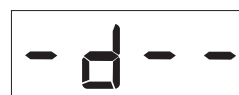

Figure 35. Pressure Adjustment
6. Press the **DOWN ARROW** (↓) button repeatedly until the second digit on the 7-segment display reads "d" (Figure 35).